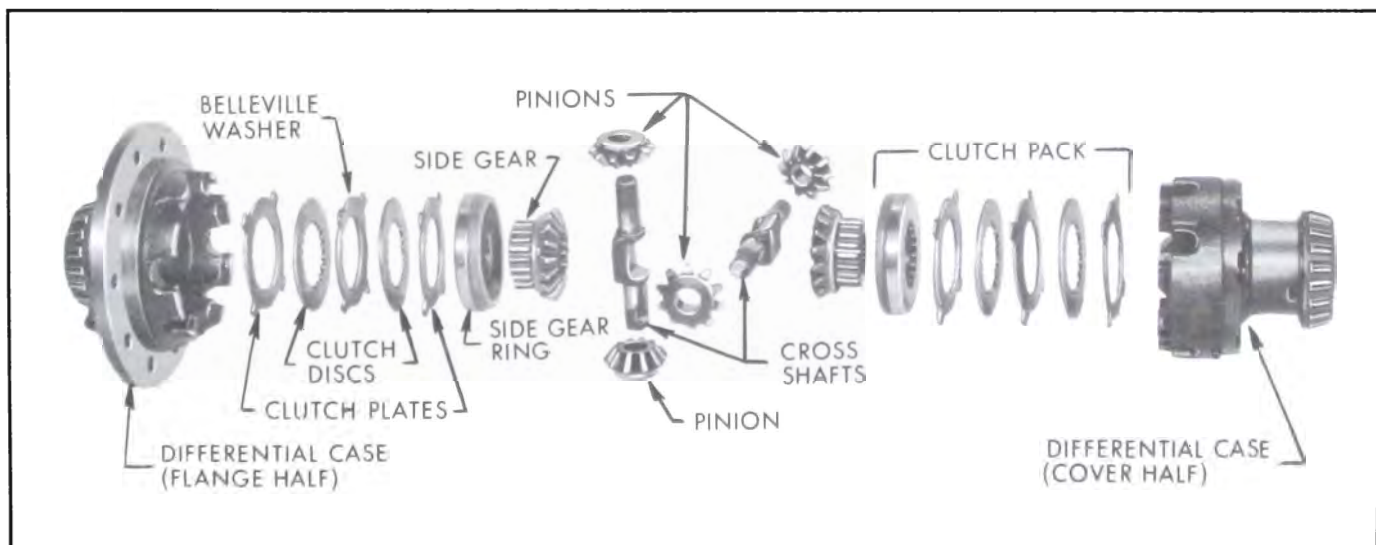
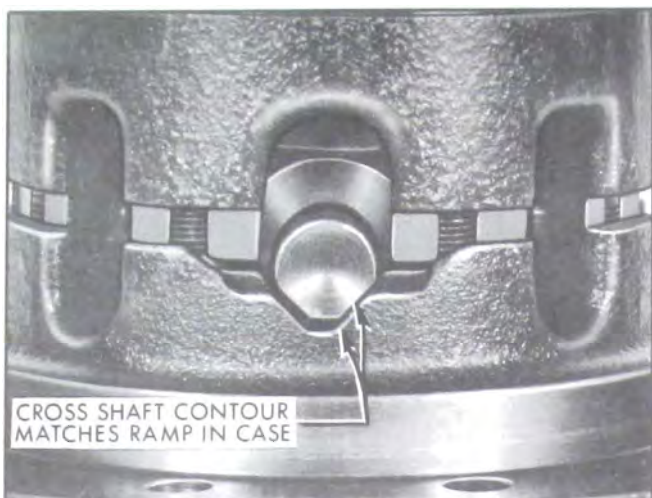

Figure 6-48—Positive Traction Differential - Exploded View
Figure 6-53—Matching Cross Shafts and Case Ramps
The mechanism that actuates the clutches consists of four pinion gears positioned in the case on two cross shafts which are at right angles to each other. Both ends of the shafts have bevelled surfaces which mate with ramps in the case. See figure 6-53.
6. Install side gears, pinion gears, and cross shafts as shown in Figure 6-48. Be certain bevelled sides of shafts match ramps in case. See Figure 6-53.